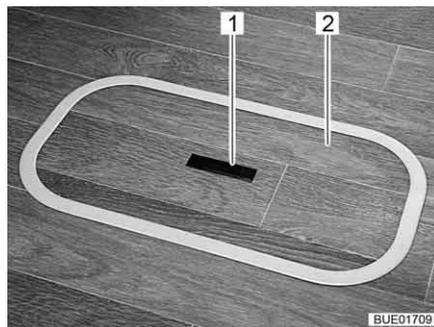
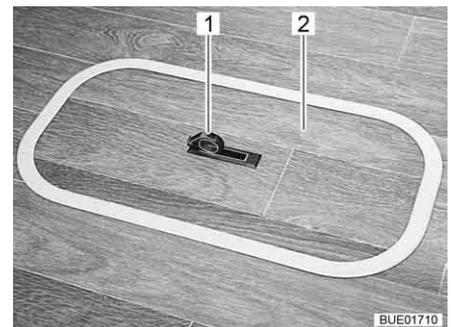

Fig. 85 Floor compartment cover (handle recessed)
Fig. 86 Floor compartment cover (handle swung out)
- Push one side of the grip plate (Fig. 85,1) downwards. The handle (Fig. 86,1) swivels upwards.
- Remove the cover (Fig. 85,2 or Fig. 86,2) upwards.